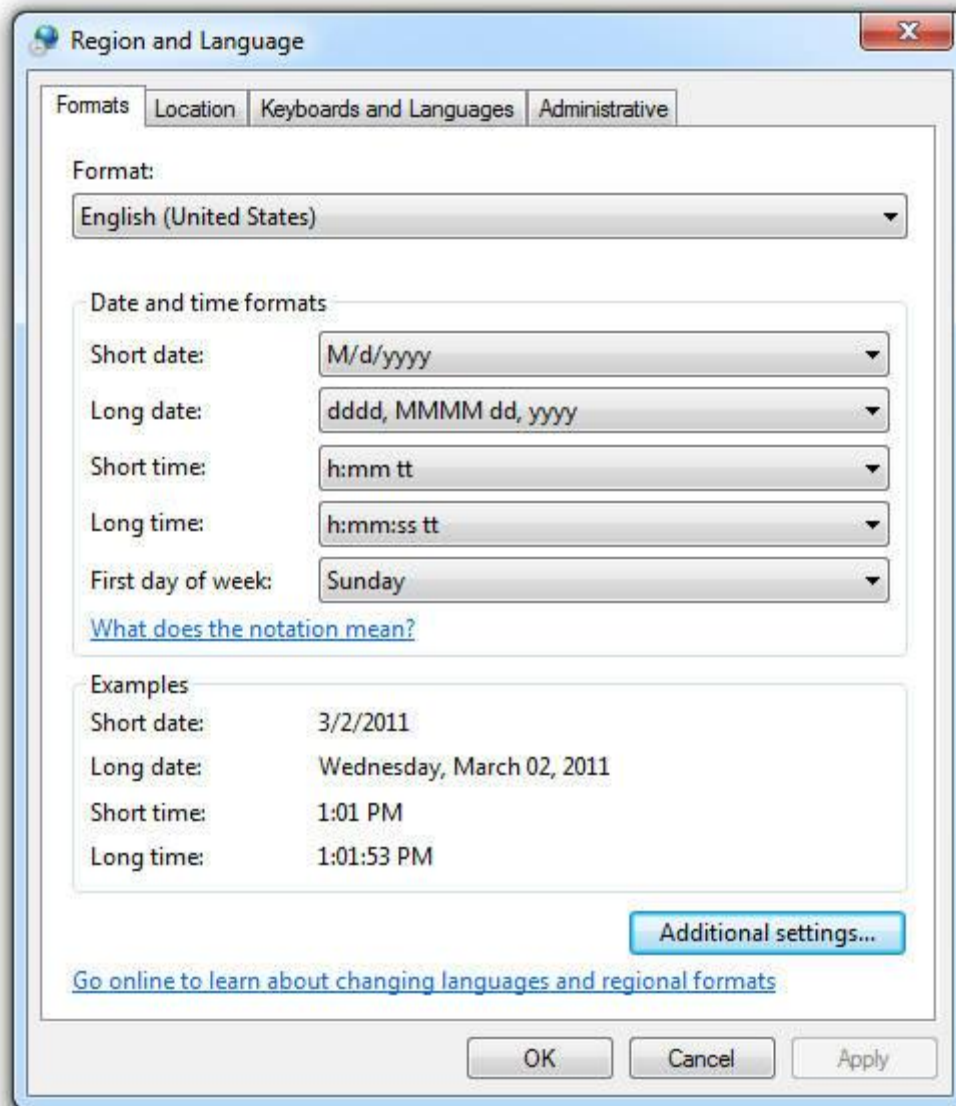

Figure 14 Formats tab in the regional and language options.
2. Under the Formats tab, select English (United States) from the Format drop down menu, see screenshot in Figure 14 below.